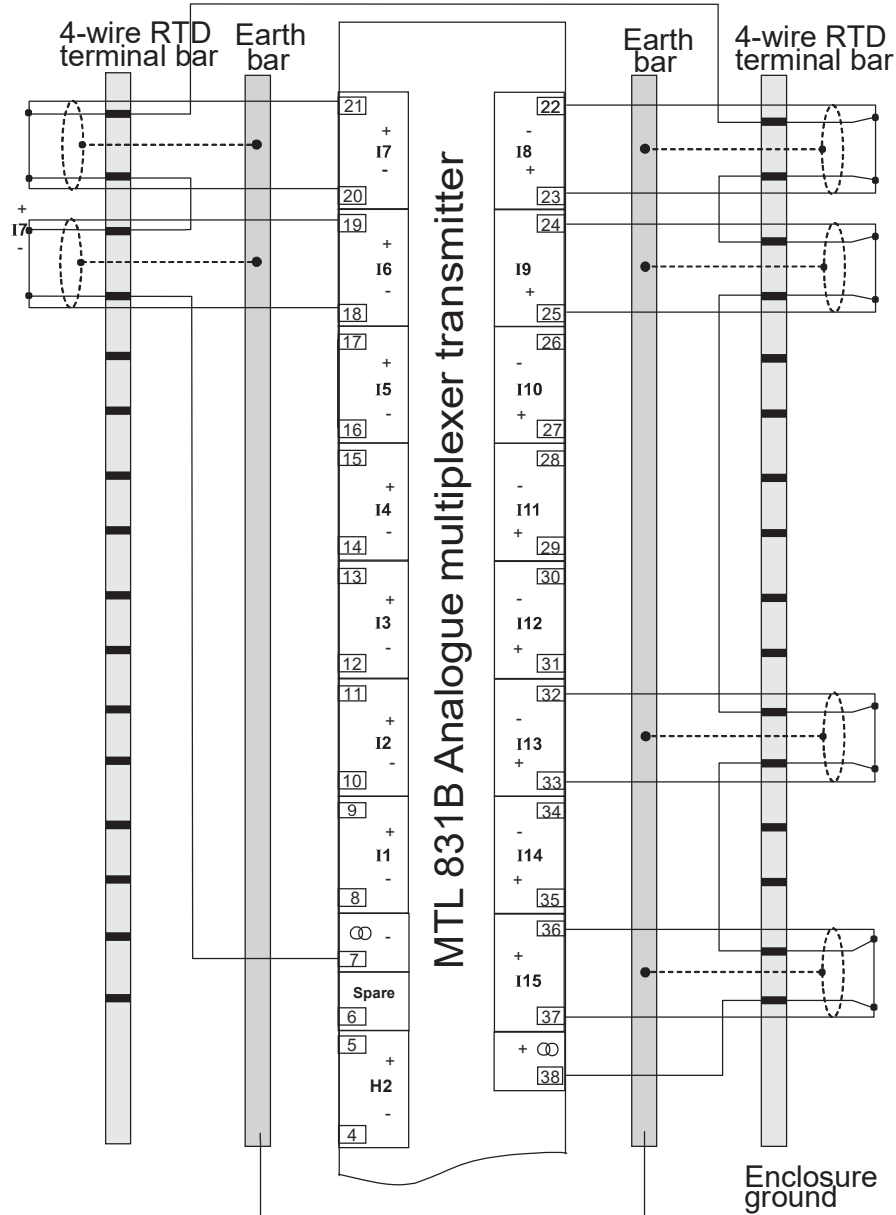

Figure 7 - Typical 4-wire RTD installation in an ENC83 enclosure
4.1.2 4-wire RTDs (see figure 7)